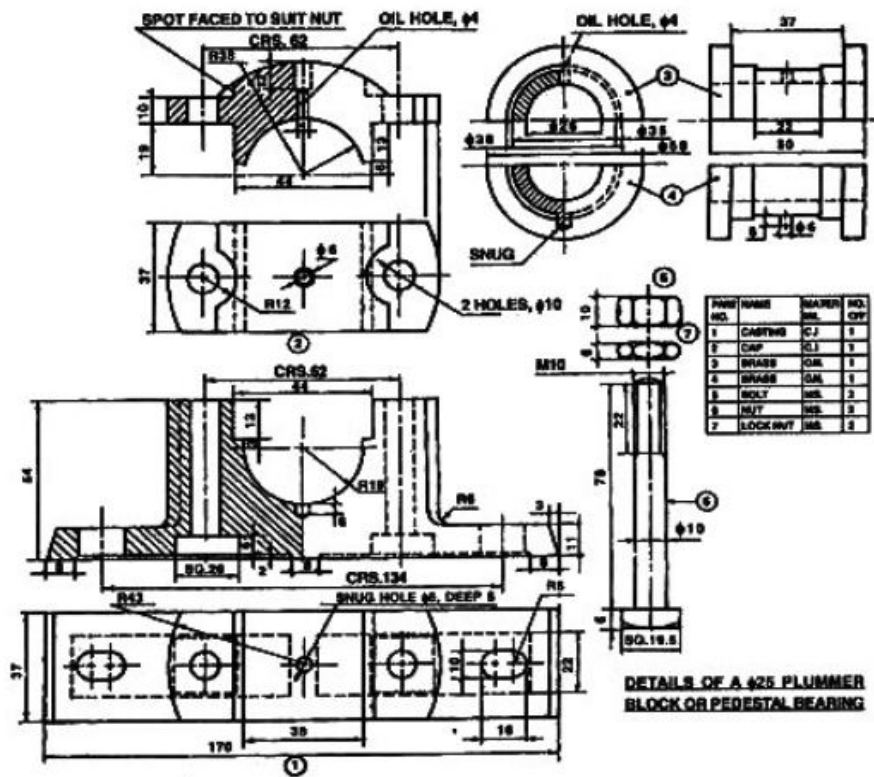

Figure 1 Details of a $\phi 25\text{mm}$ Plummer Block or Pedestal Bearing
3. Draw the assembled half sectional front view and top view of pedestal bearing shown in figure 1.